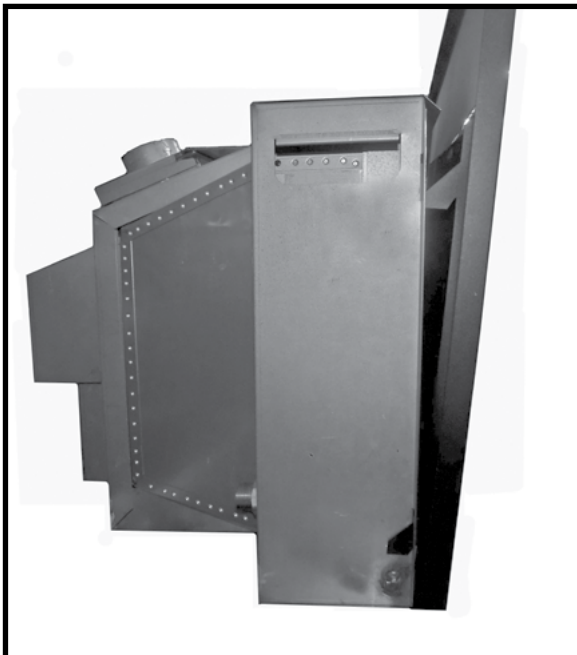

Figure 121: Mounting the backing plate.
2. Place the backing plate onto the fireplace by inserting its four hooks into the four slots on the fireplace frame (Figure 121).